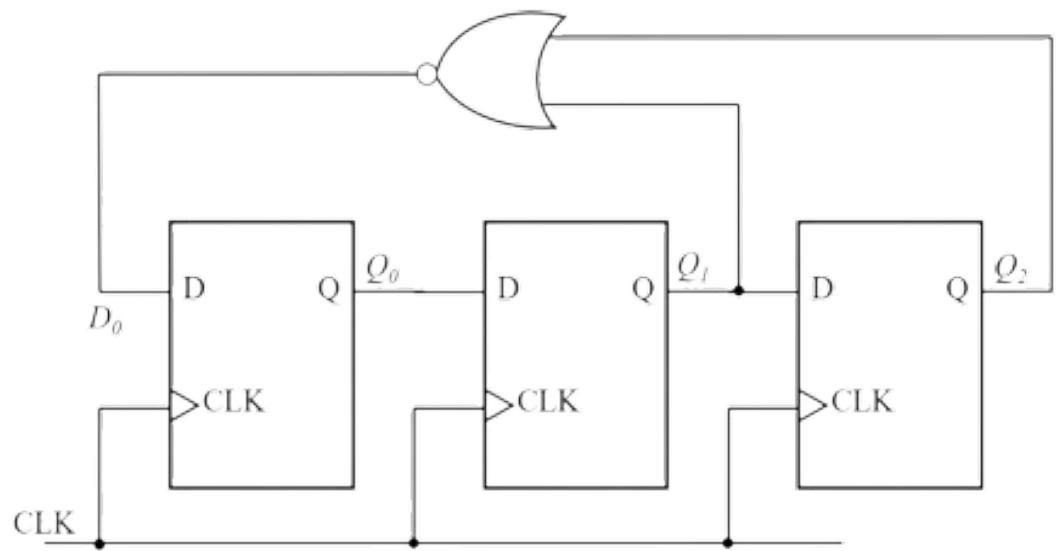

Figure 5.10:
14. The digital circuit shown in Fig. 5.10